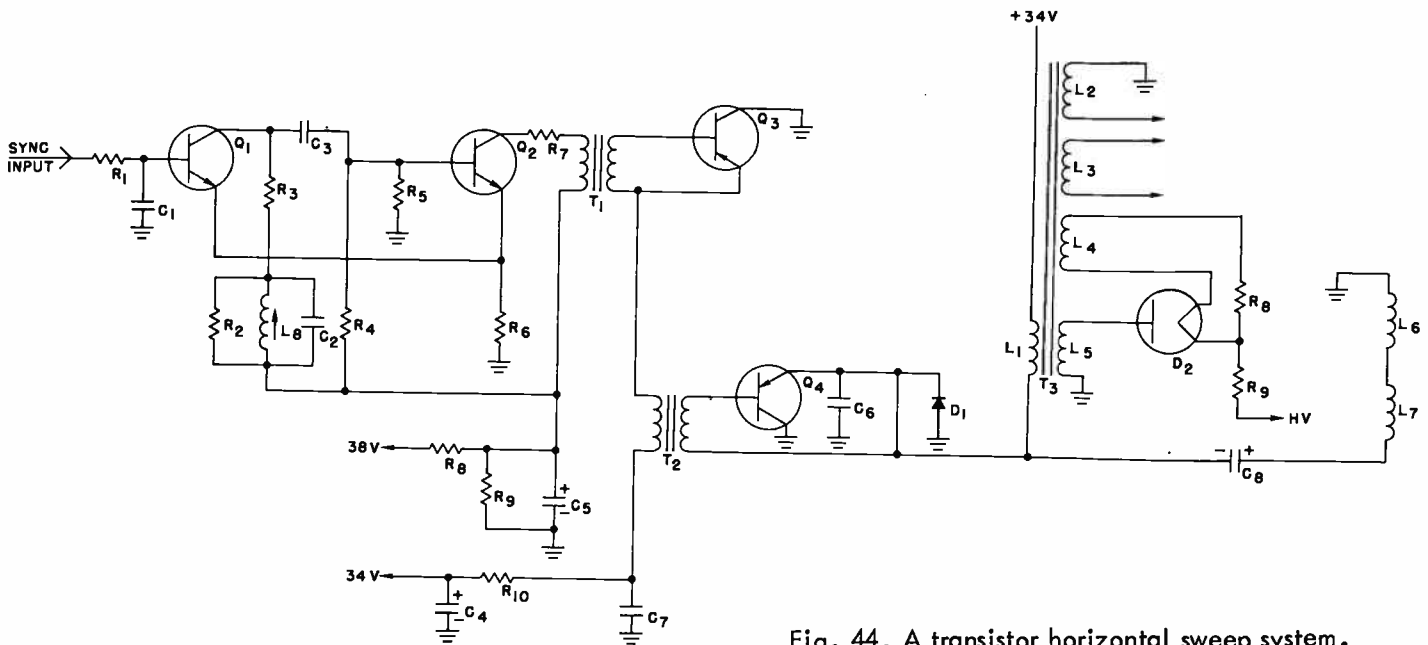

Fig. 44. A transistor horizontal sweep system.
In Fig. 44 we have shown the horizontal sweep system from a transistor receiver. The horizontal oscillator consisting of Q_1 and Q_2 is a multivibrator circuit; you studied this type of circuit previously. The frequency of this circuit is controlled by a dc voltage from the sync circuit.
Although the circuitry in Fig. 44 differs considerably from the vacuum-tube circuits, notice that, in general, we have the same stages performing the same functions. We have the horizontal output stage, which is used to supply the current to the deflection coils. We have a damper stage, which damps out the oscillation developed in the horizontal coils after a one-half cycle oscillation. We have the high-voltage rectifier stage, which is used to develop the high voltage required to operate the picture tube.
- (af) What purpose does D_1 serve in Fig. 44?
- (ag) What purpose does T_3 serve in Fig. 44?